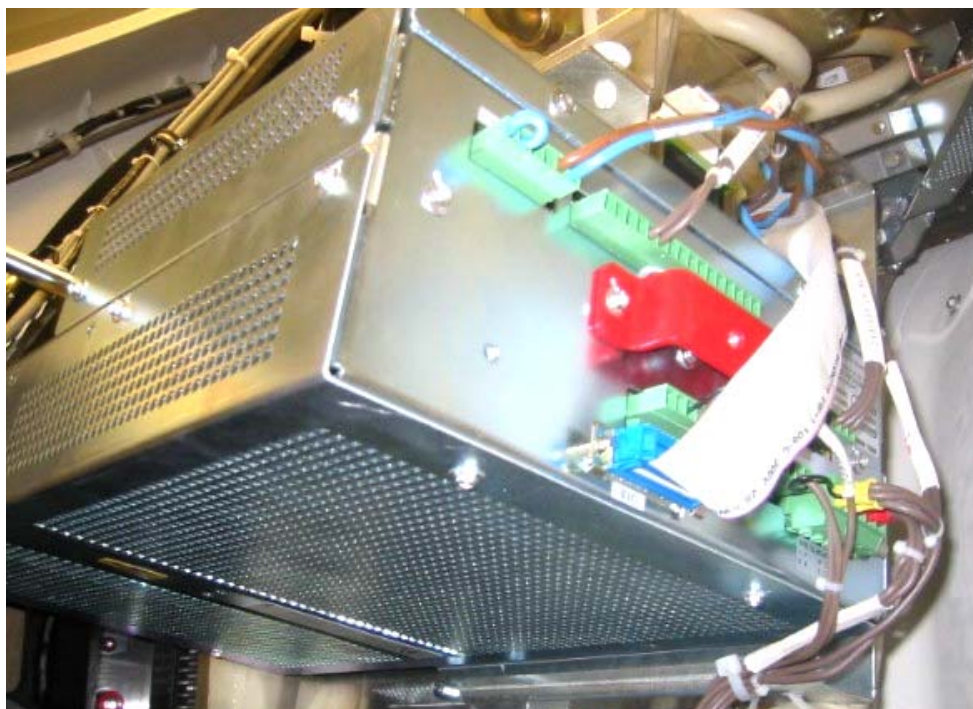

Figure 6: Aux Box Cable Connections
- 16) Apply Loctite 242 to one (1) M12 x 30 cable top bracket mounting bolt and torque to 49 ft lbs (66 N-m).
- 17) Re-mount the Aux Box and torque two (2) M12 x 150 bolts to 49 ft-lbs (66 N-m).
- 18) Re-mount the Power I/F assembly; apply Loctite 242 to the four (4) M6 x 12 mounting bolts and torque to 5.9 ft-lbs (8 N-m).
- 19) Re-mount cable guide bracket; apply Loctite 242 to the two (2) M6 x 12 mounting bolts and torque to 5.9 ft lbs (8 N-m).
- 20) Check for any loose cable connections to the Aux Box (if removed, reconnect cables) and replace any removed ty-wraps. Refer to Figure 6: Aux Box Cable Connections.